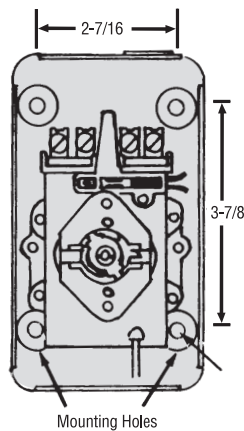

Figure 2
2. Use sheet metal or wood screws through the four $\frac{7}{32}$ " diameter mounting holes in baseplate to mount control (see Figure 2).